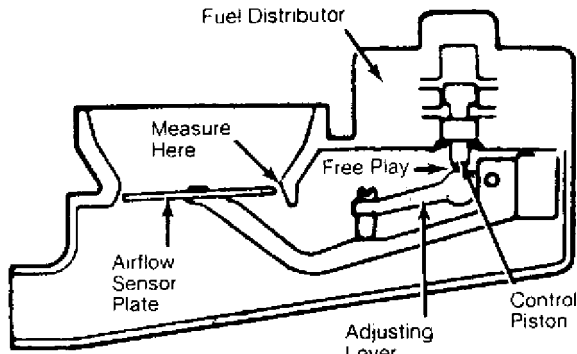

Fig. 11: Sensor Plate Free Play
1) Free play is between control piston and adjusting lever. Differential pressure regulator must have 4-16 mA current. Position of sensor plate lever must be correct. Measure free play on side of sensor cone closest to fuel distributor. See Fig. 11.